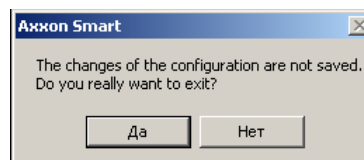

Fig. 6.1—7 Message displayed when exiting the program without saving changes
*NOTE.* If the settings of a newly created object have not been saved, the  icon will appear on the tab, literally indicating that the changes to the tab have not been saved. Then, when you are exiting the program, a message will appear (Fig. 6.1—7) asking whether you want to exit without saving changes.